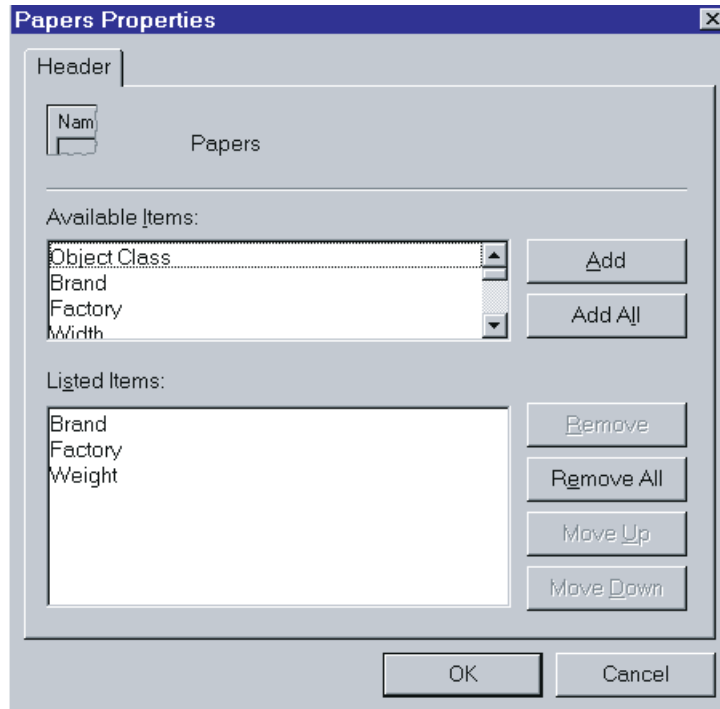

Figure 37. Header Properties Window
2. Select **Properties** from the drop-down menu. The **Header Properties** window displays, as shown in Figure 37 on page 42.